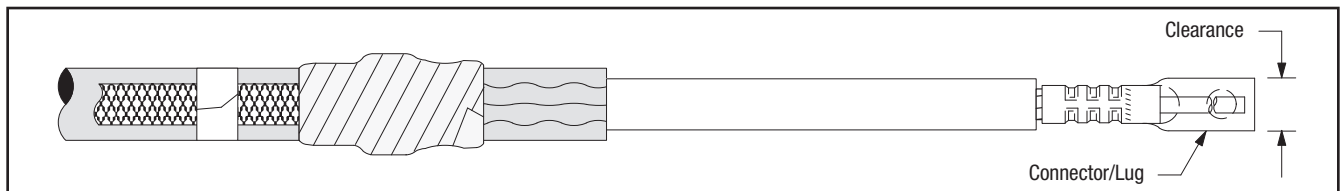

Figure 23
14.1 Check to insure 3M Cold Shrink QT -III Silicone Rubber Termination fits over the selected lug or connector BEFORE installing the lug or connector. If lug or connector (Figure 23) will not fit through the termination core, clean the insulation (per Step 15.0) and slide termination on cable before installing lug or connector. **DO NOT REMOVE CORE AT THIS TIME.**